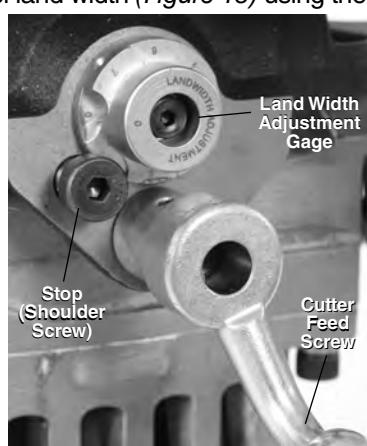

Figure 18 – Land Width Adjustment Gage Setting
6. Set the desired bevel land width (Figure 18) using the land width adjustment gage. If set to "0" there will be no land on the end of the pipe. Each step on the land width adjustment gage is approximately a $\frac{1}{32}$ " (0.8 mm) different from the adjacent step. (1 ~ 0.03" (0.8 mm) land width, 2 ~ 0.06" (1.6 mm), etc.) Move the needed step of the gage so it aligns under the head of the stop.
8. Using a smooth continuous clockwise rotation of the cutter feed screw (Figure 18); engage the cutter head into the work piece until the stop contacts the land width adjustment gage. Do not use cutting oil or coolant.